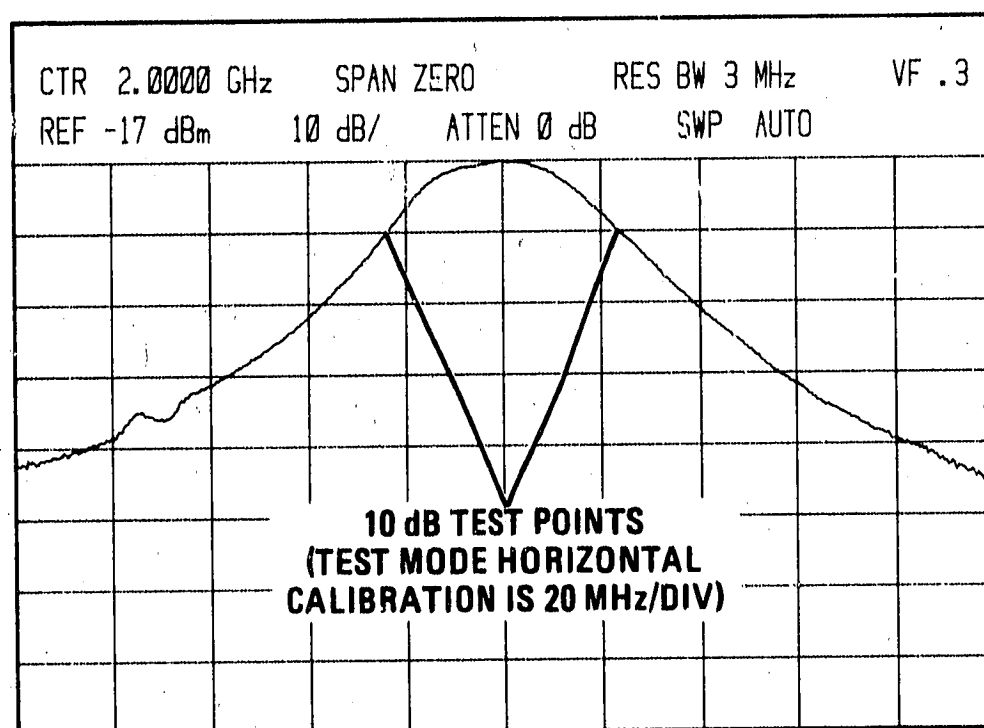

Figure 5-33. YTF Passband Display for YIG Driver Adjustment
13. Adjust A19R14 YTF OFFSET to center passband on CRT display (Figure 5-33).
15. Adjust A19R17 YTF GAIN to center passband on CRT display (Figure 5-33).